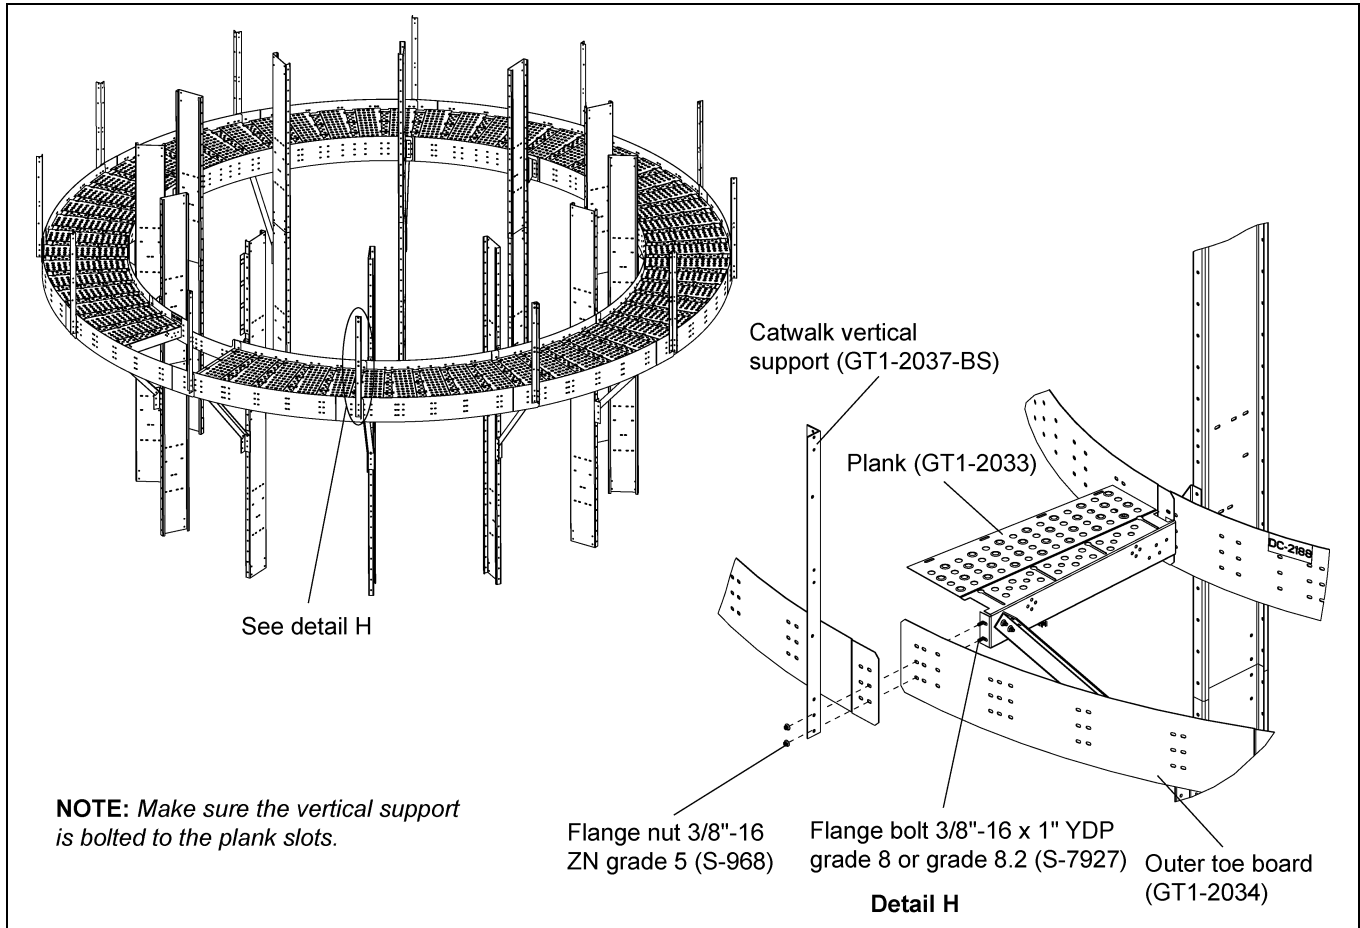

Figure 4R
1. Install all the outer toe boards (GT1-2034) to the planks (GT1-2033). (See Figure 4R.)
2. When installing the outer toe board with planks, install the catwalk vertical support (GT1-2037-BS) simultaneously at proper locations using 3/8"-16 x 1" YDP grade 8 or grade 8.2 bolts (S-7927) and 3/8"-16 ZN grade 5 nuts (S-968). (See Figure 4R.)